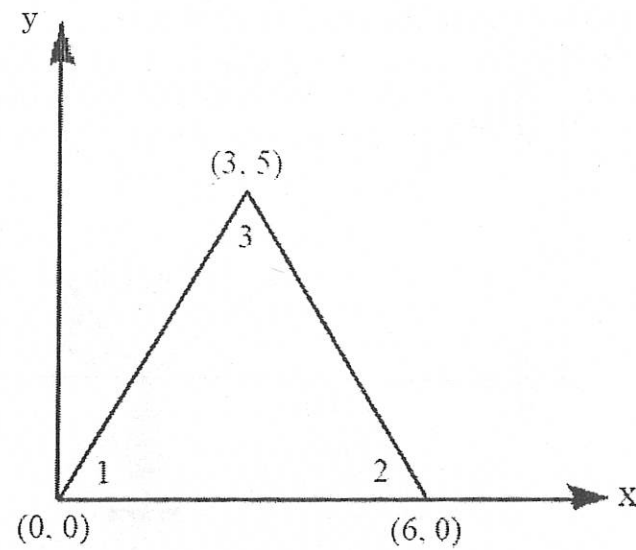

Figure. 5
14. (a) Evaluate the element stiffness matrix for the triangular element shown in Figure 5, under plane stress conditions. Take  $E = 200 \text{ GPa}$ ;  $\nu = 0.25$ ;  $t = 1 \text{ mm}$ .